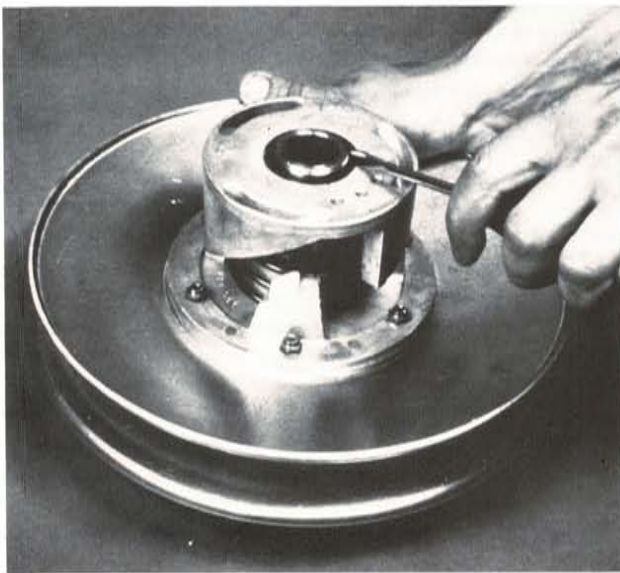

Fig. 8
4. Remove snap ring from shaft of stationary sheave. NOTE: Torque bracket is under spring load and should be held down until removal (Fig. 8).